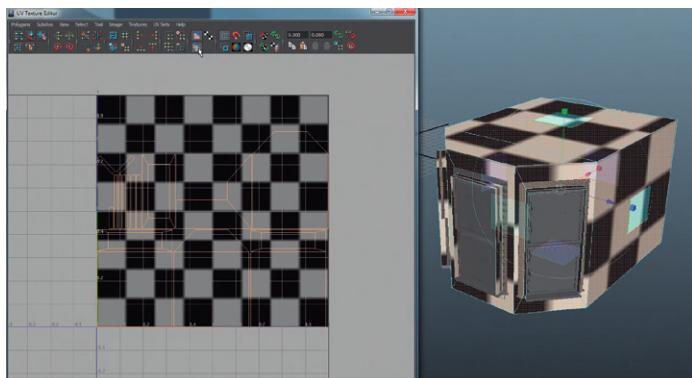

FIG 5.9 Results of Automatic Mapping with the default settings (six projections).
Step 7: Use Automatic Projection to create UVs for the entire wall object. Do this by selecting the wall object and choosing Polygons>Create UVs > Automatic Mapping (Fig. 5.9).
Step 8: Dim the texture to make the UVs more visible. Do this in the UV Texture Editor via Image > Dim Image (as can be seen in Fig. 5.9).